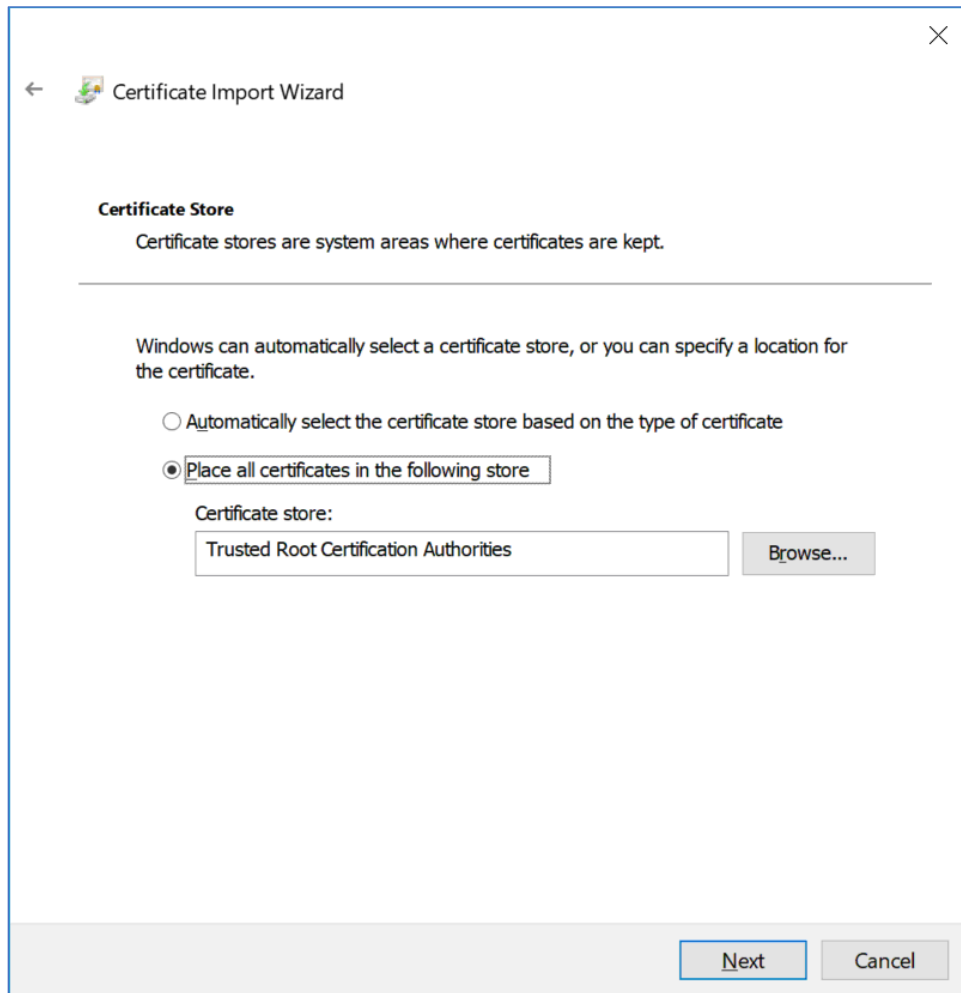

Figure 179: Windows Certificate Import Wizard-Choose Certificate Store
19. Click on the Browse button, then select “Trusted Root Certification Authorities.” When the Certificate Store parameter completes, click on the Next button. The Certificate Store screen is shown in Figure 179.